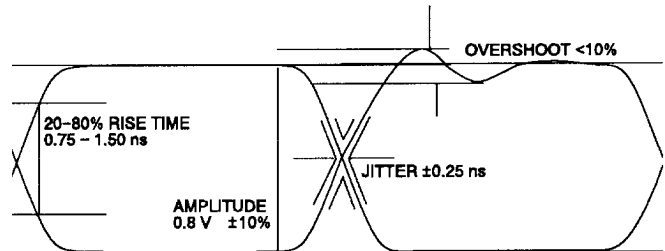

Fig. A-7. Eye pattern specs for the serial signal. Displays the amplitude, jitter, overshoot, and rise and fall times.
- In the **WAVEFORM HORIZONTAL DESC** menu, set the **Display Type** to: **VARIABLE PERSISTENT**. This adjustment should result in the outline of the eye pattern displayed on the screen. The eye pattern should be similar to Fig. A-7.